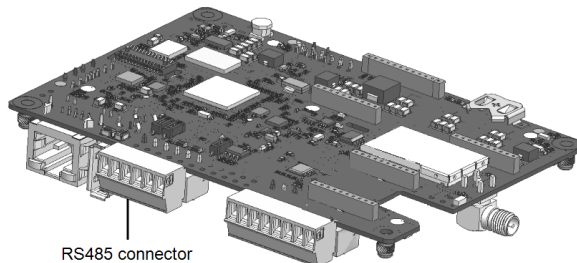

Figure 29: RS485 terminal block on the communication board
3. Pull out the 6-pin RS485 terminal block connector, as shown in *Figure 29*.